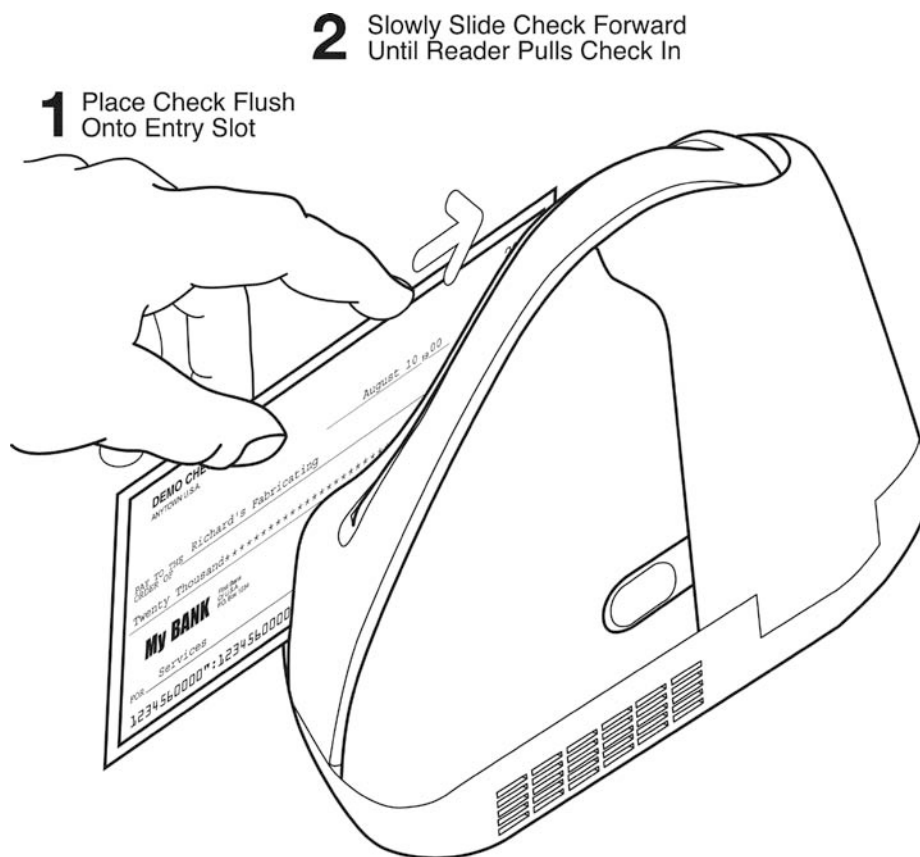

Figure 3-1. Check Orientation - Insertion
1. Orient the check so the MICR line is down and the printed side faces the center of the MDX as indicated in Figure 3-1. For more information about the MICR line refer to Appendix A.